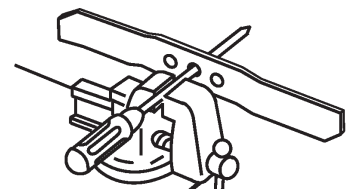

Figure 31
1. Check the balance of the blade by placing the center hole of the blade over a nail or a screwdriver shank clamped horizontally in a vise (Fig. 31).